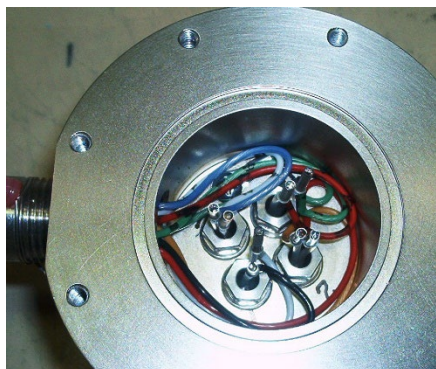

Fig. 8.14. Multiport TCD
8.5.4 Multiport Thermal Conductivity Detector (see Figure 8.14)